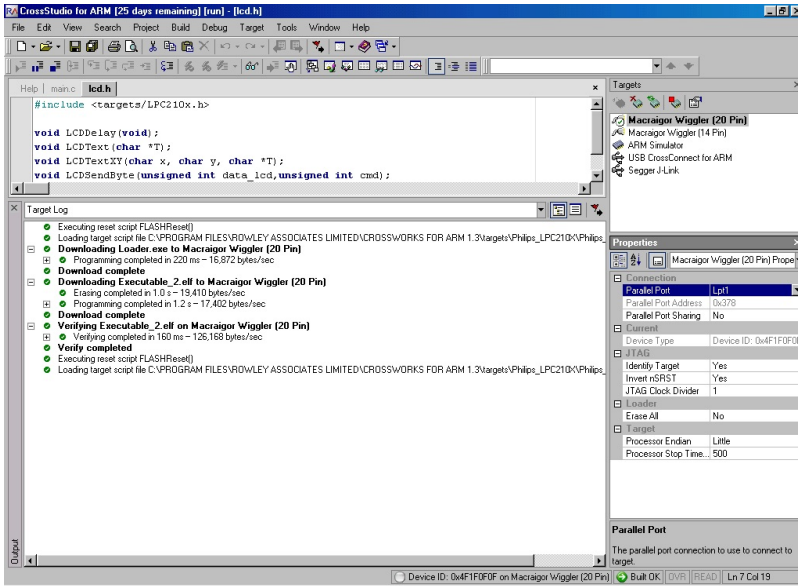

Fig. 2. CrossStudio for ARM
- CrossStudio for ARM design environment (with C compiler) by Rowley firm (www.rowley.co.uk) - Fig. 2.